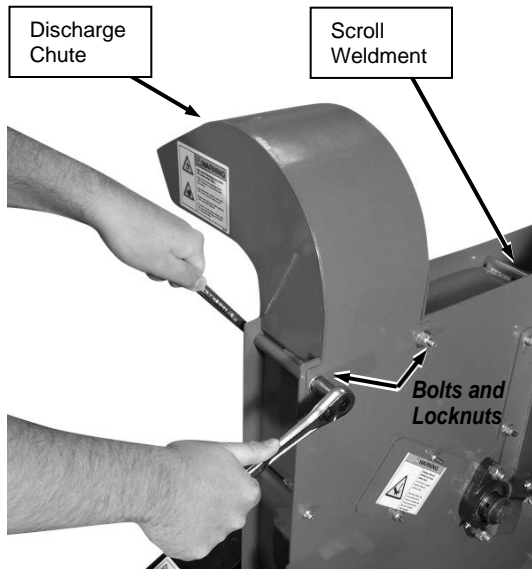

Figure 64
1. Remove the two Bolts and Locknuts from the Discharge Chute with two 1/2" wrenches (**Figure 64**).